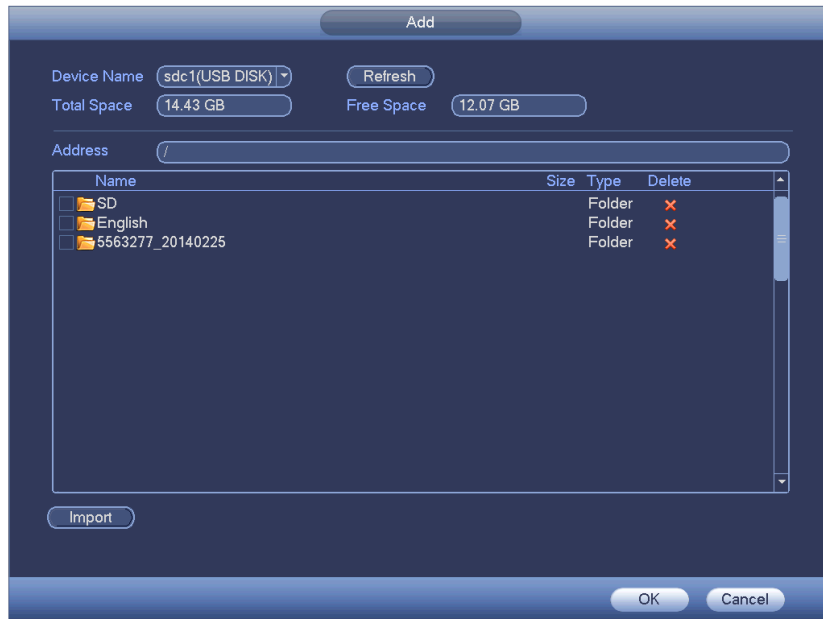

Figure 4-216
Step 2 Click Add button, it is to add audio file and import the audio file via the USB device. See Figure 4-216.